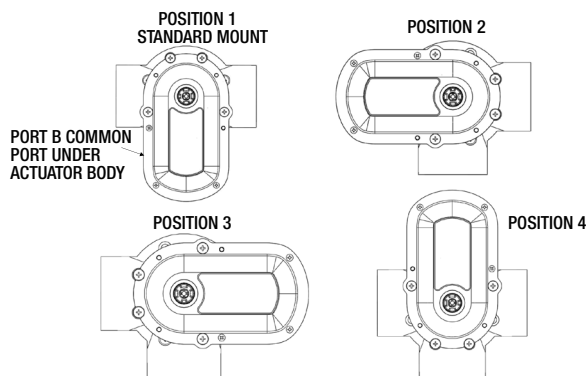

Figure 3.
5. Rotate the actuator until the actuator posts line up with the four holes so it matches one of the mounting positions shown in Figure 3.
Standard Actuator Mounting - The main body of the actuator is over port B as shown in position 1 of Figure 3.
The actuator can also be mounted on top of a valve in four different positions as shown in Figure 3. Depending on the plumbing of the valve and mounting position of the actuator, the cams inside the actuator may have to be reset. (See next section.)
**NOTE:** Factory settings: If mounted in POSITION 1 (STANDARD MOUNT in FIG 3) the cams will stop the valve blocking PORT A in one direction and PORT C in the other direction. Please be sure to adjust the cams to match your setup.